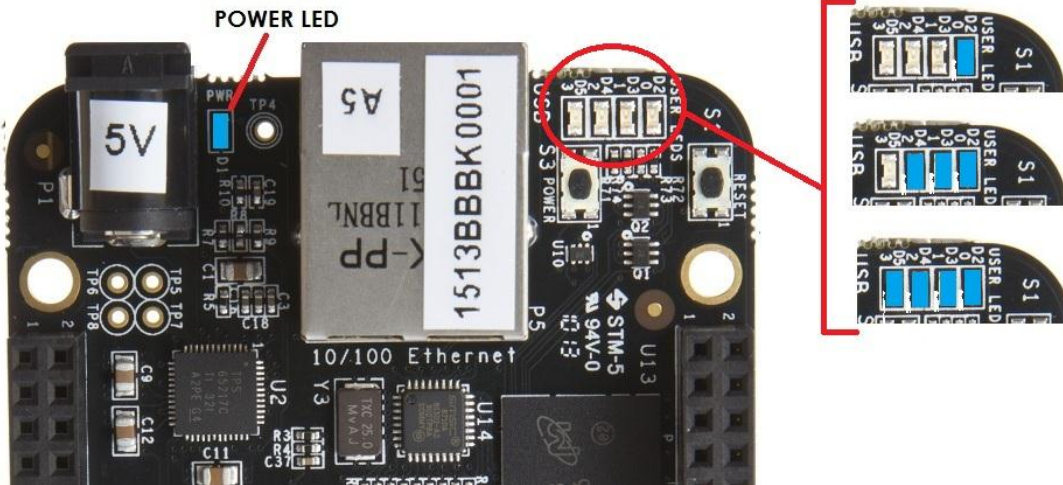

Figure 5. Board Boot Status
- When the board starts to the booting process started by the process of applying power, the LEDs will come on in sequence as shown in **Figure 5** below. It will take a few seconds for the status LEDs to come on, so be patient. The LEDs will be flashing in an erratic manner as it begins to boot the Linux kernel.